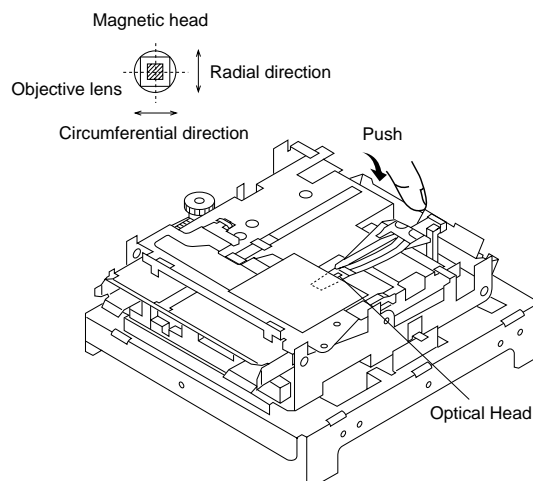

Figure 25-2
4. Make sure that there is a clearance as shown in Figure 25-2 and the magnetic head moves up and down smoothly.